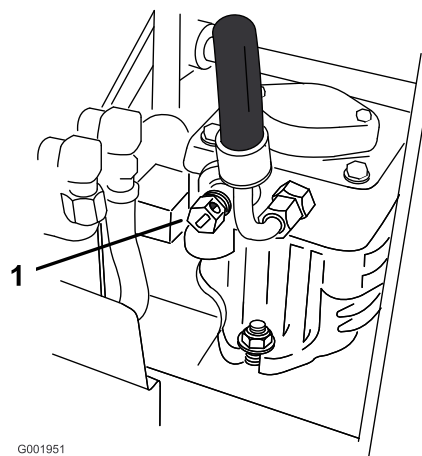

Figure 24
2. Open the by-pass valve on both pumps by turning them counter clockwise 1 to 2 turns. This allows hydraulic fluid to by-pass the pumps and the wheels to turn (Figure 24).